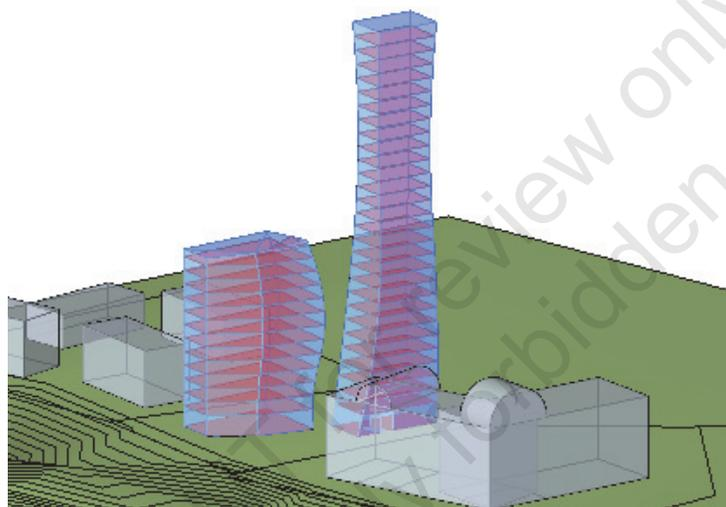

Figure 1–97
- Select all of the levels in the Mass Floors dialog box and click **OK**. The new mass floors display as shown in Figure 1–97. Hint: Use <Shift> to select all the levels, then check one check box to check them all.